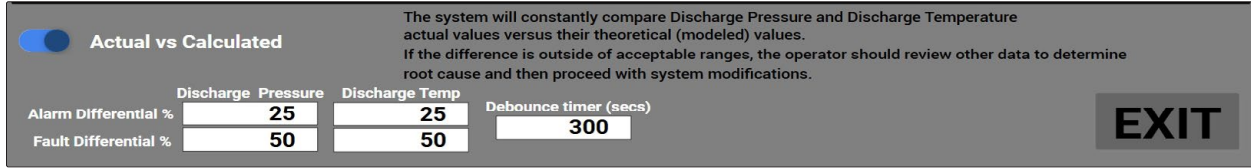

Figure 37
1. Select the **Actual vs Calculated toggle** to enable it. See *Figure 37*.